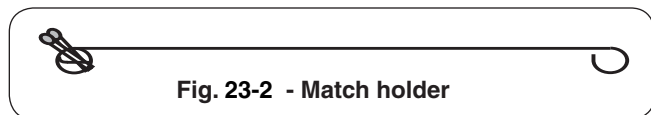

Fig. 23-2 - Match holder
2. Insert either a burning long-barrel butane lighter, a burning long-stem match, or a burning match held by a wire extension holder (Fig. 23-2) through the cooking grids to the burner. (Fig. 23-3). For backburners, hold the flame against the perforated material of the backburner. For sideburners, hold the flame against the burner.